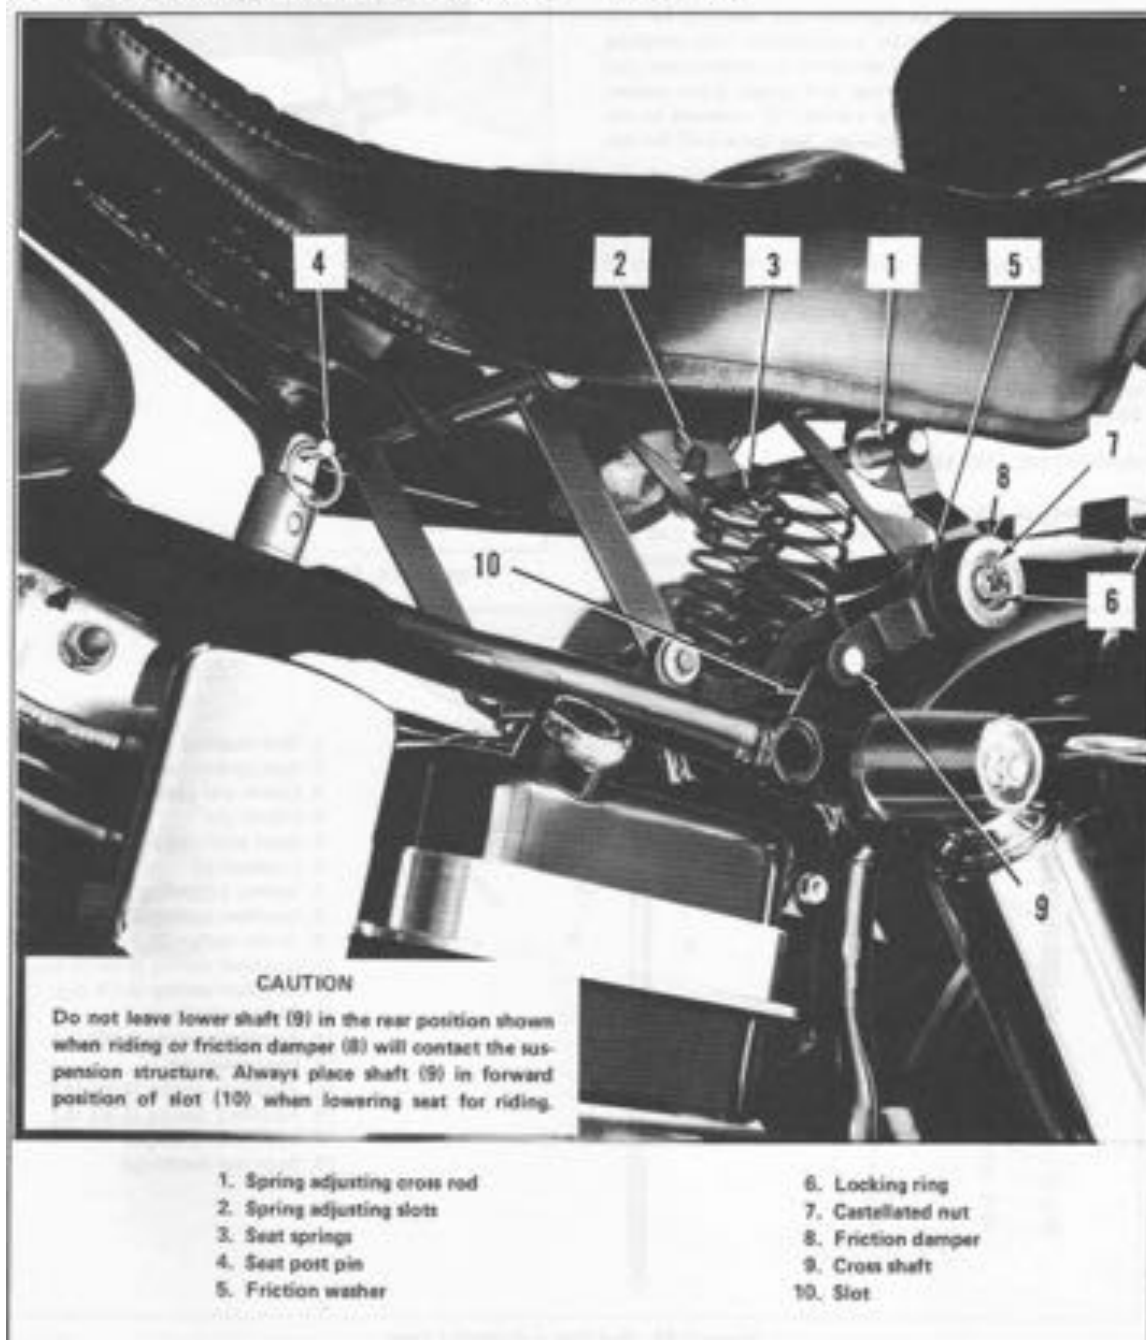

Figure 2-49. Seat Adjustments
ances. The seat post height should be  $3 \pm 1/16$  in. from seat post frame to centerline to post pin hole. With upper shaft (1, Figure 2-49) in fifth or rear most slot, the seat should compress fully to its stops and the gas tank clearance must be 1-1/2 in. minimum. There should be adequate clearance between seat and fender, luggage carrier with Tour-Pak, and saddlebags. If seat post height requires adjustment, proceed as follows. Refer to Figure 2-50, remove nut and washer (9) from bottom of seat post and remove seat post from motorcycle. Adjust rod nut (10) to obtain 1/2 in. dimension shown in figure. This dimension should give the seat the correct dimension of  $3 \pm 1/16$  in. Note that adjusting locknut (12) can be removed completely from the assembly and not used at all if necessary to achieve the  $3 \pm 1/16$  in. dimension.